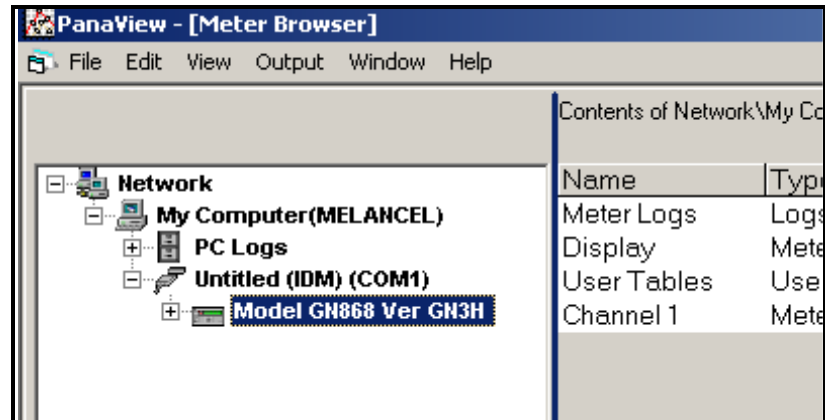

Figure F-6: The Updated Network Tree
If the initialization is successful, the Meter Browser shows a listing similar to Figure F-6 below.
1. Highlight the meter (as shown in Figure F-6 on page F-6).